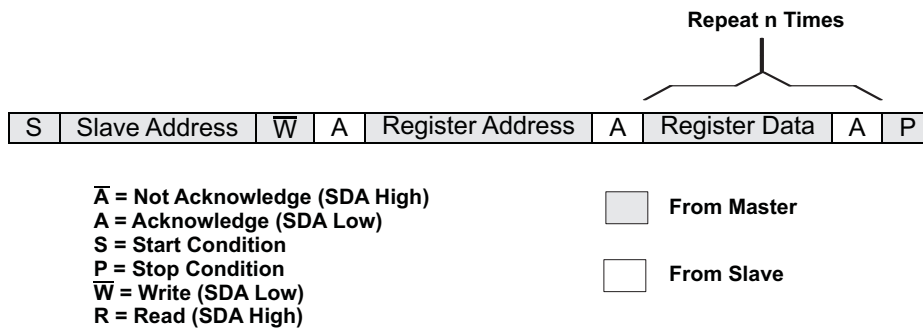
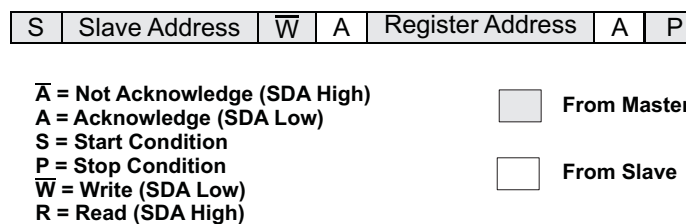
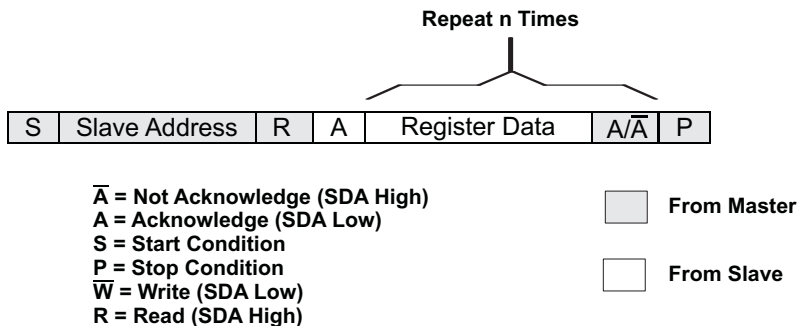
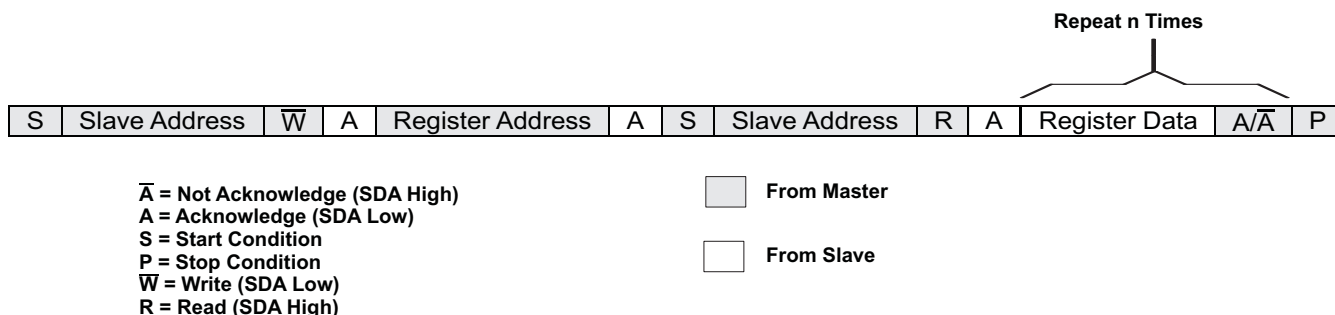

Figure 21. I2C Write Cycle with Register Address and Data
Figure 22. I2C Write Cycle with Register Address Only
Figure 23. I2C Read Cycle
Figure 24. I2C Combined Format Write/Read Cycle
During a write cycle, the slave sends an acknowledge (A) after every byte that follows the device address. The first byte following the device address is the register address, which maps to the register addresses specific to the device. The second byte following the device address is the data byte to be written at the register address (see Figure 21). If only the register address is to be written for a subsequent read sequence, the data byte is omitted and the sequence ends with a Stop (see Figure 22) or a repeated Start after the register address byte (see Figure 24). If multiple data bytes are to be written at subsequent register addresses, the master may continue to send data bytes after each slave acknowledge, and the slave device automatically increments the register address. Note that the master must not drive the SDA signal line during the slave acknowledge since the slave is in control of the SDA bus and may be holding it low.
During a read cycle, the slave acknowledges the initial address byte if it decodes the device address as its own device address. Following this initial acknowledge by the slave, the master device becomes a receiver and acknowledges data bytes sent by the slave. The first byte received by the master is the data stored at the register address, while subsequent bytes are data stored at incrementing register addresses. When the master has received all of the requested data bytes from the slave, the not acknowledge (A) condition is initiated by the master by keeping the SDA signal high just before it asserts the Stop (P) condition. This sequence terminates a read cycle as shown in Figure 23. A combined format is when the read cycle is preceded by a write cycle for setting the register address, and is shown in Figure 24.